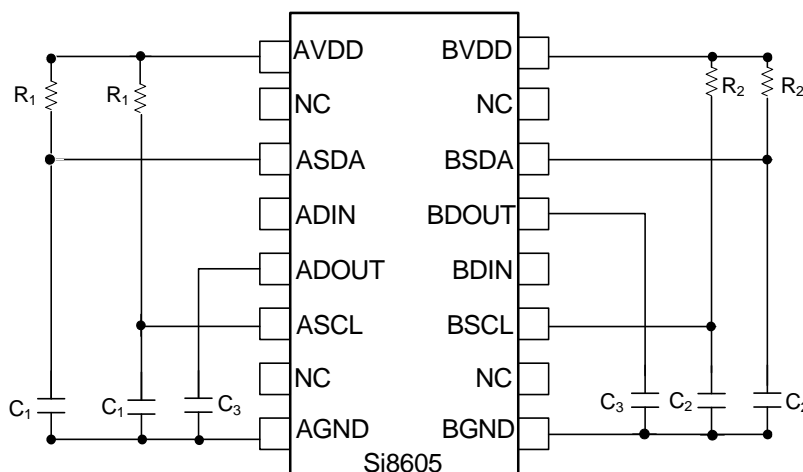

Figure 2. Simplified Timing Test Diagram
3.0 V < VDD < 5.5 V. TA = -40 to +125 °C. Typical specs at 25 °C (See Figures 2 and 9 for test diagrams.)
Figure 2 depicts the timing test diagram.